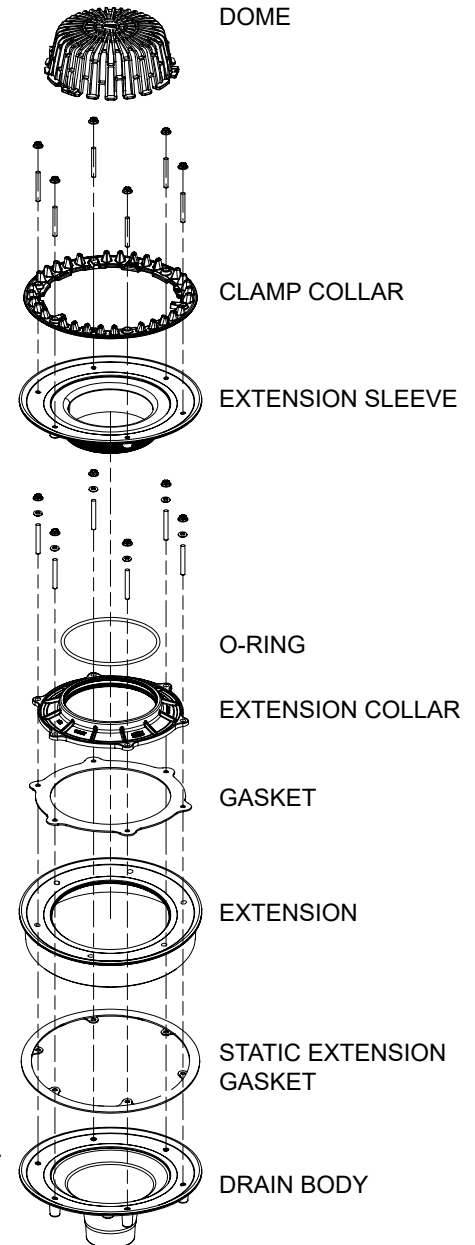

Fig. 1
13. Cut the membrane as per the roof membrane manufacturer's requirements in the center of the clamping collar. Continue to cut outward until the precast cutting edge in the extension body is located (Fig. 1). Once precast edge is found, cut out circular section of membrane by following the cutting edge.